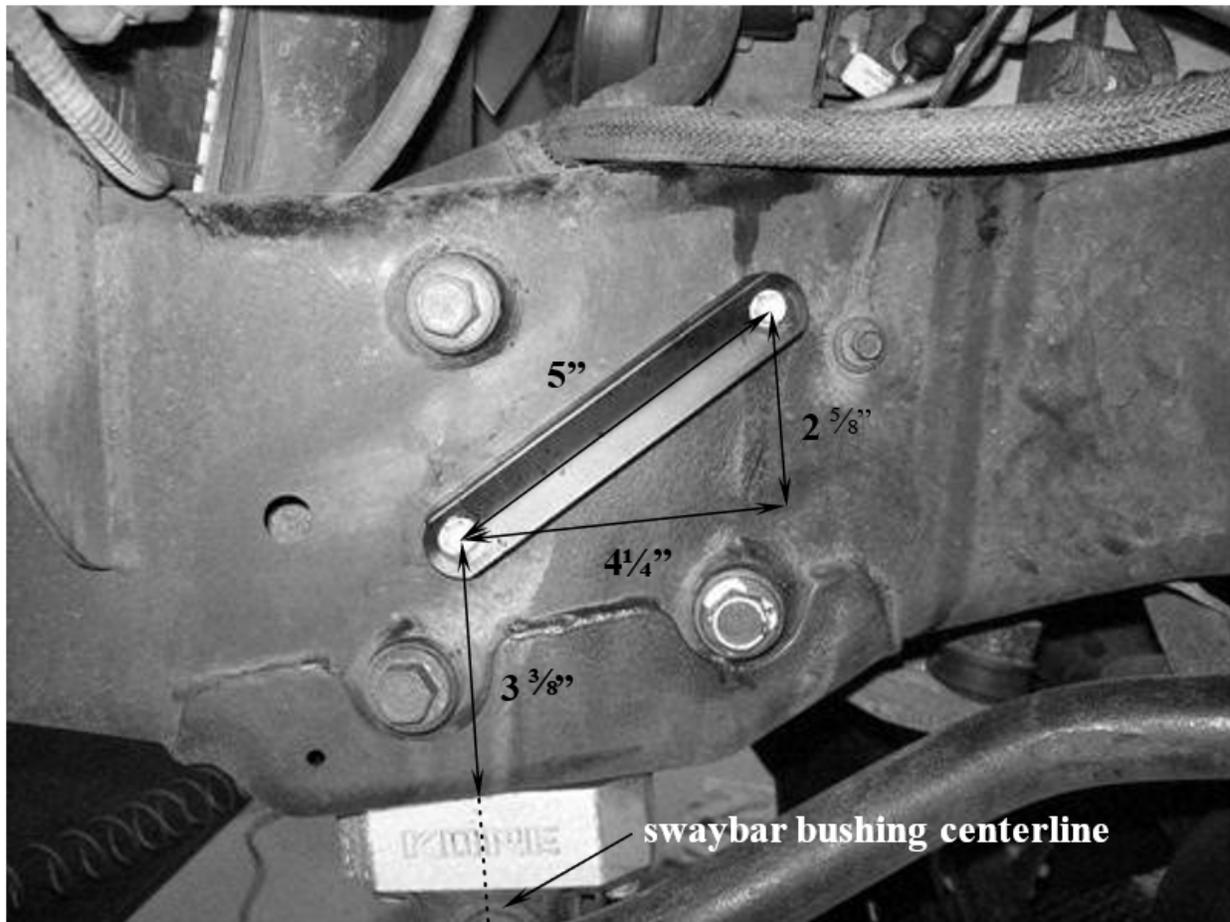

Figure 4
- C. **Figure 4** depicts the recommended bracket position. The driver side is shown.